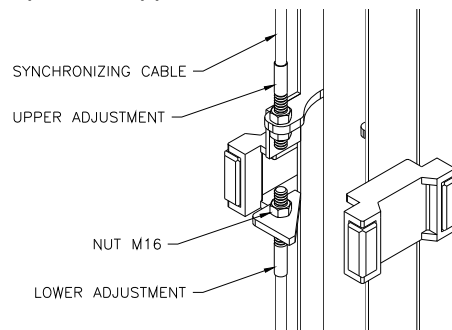

Fig 4 – Synchronizing Cables
- 16) Attach one end of synchronizing cable to carriage. See **Fig 4** for proper attachment.
- 17) Route cable up and over sheave in overhead. Follow across to other sheave on opposite column. Route down through carriage to sheave in bottom of column. Route under sheave and up to cable attachment. Use **Fig 4** for proper attachment.